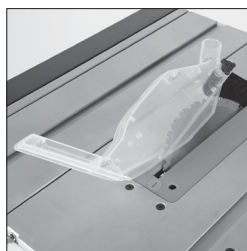

Fig. 18
- When satisfied that the blade guard works throughout the blades height adjustment range, check that the guard works equally well with the blade at a bevel angle (**Fig 18**).